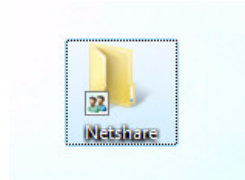

Figure D-16 Netshare Folder Icon (Shared)
9. The Netshare folder now displays a shared folder icon (Figure D-16).